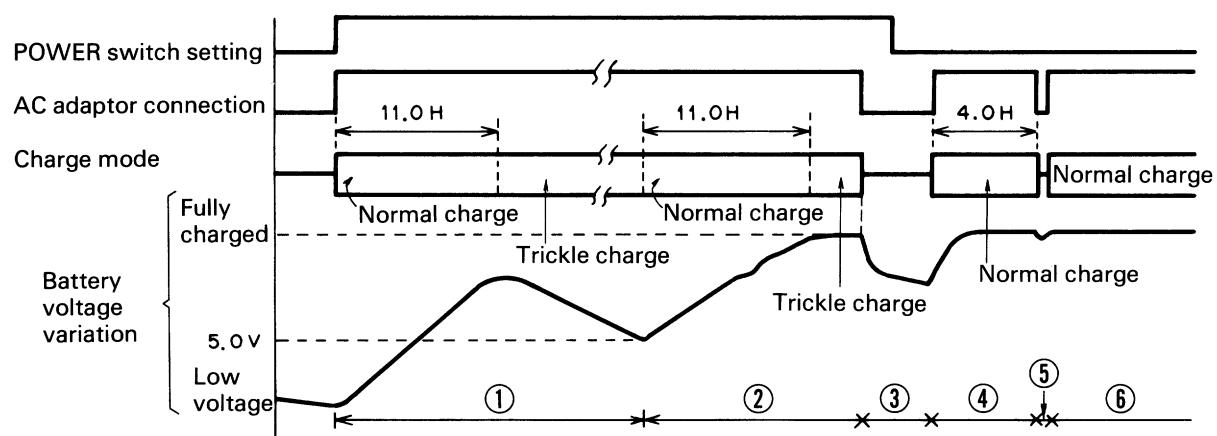

Fig. 2-8 Main Battery Charging Operation
In the following text, the functions of jumper J2 are summarized. Then, the actual main battery charging operations are described based in Fig. 2-8.
(2) Charging Operations
- Fig. 2-8 is a timing diagram which illustrates the main battery charging operation when the charge control is in effect.
Fig. 2-8 illustrates the main battery charging operation from a low voltage. The individual steps of the operation ① through ⑦ are explained in detail in the following:
- ① Situation – Low voltage is detected while the computer is used with the AC adaptor connected.